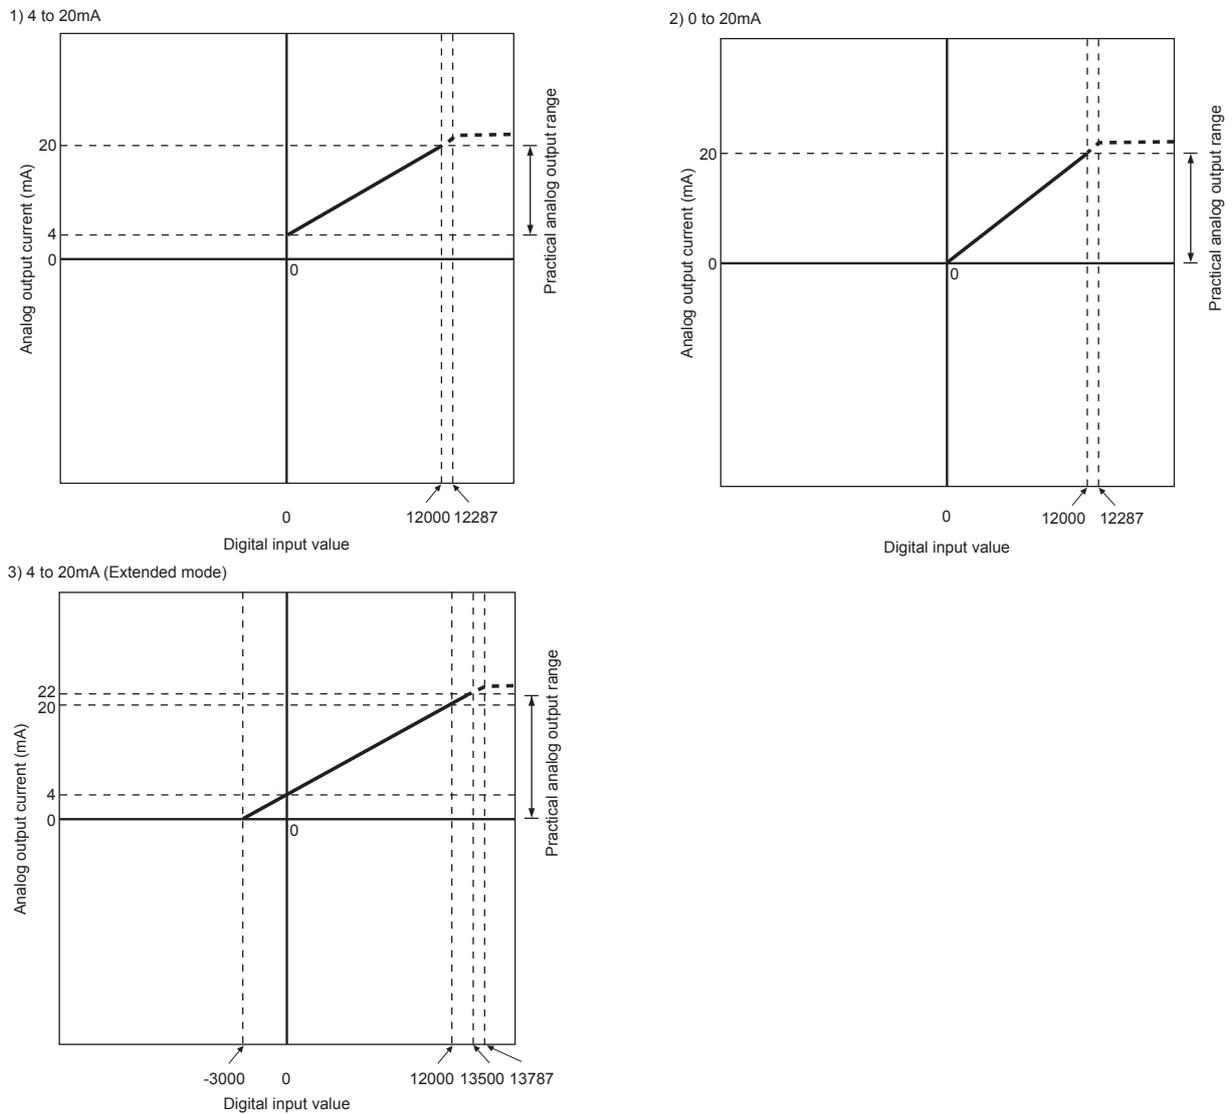

Figure 3.2 Current output characteristic
Figure 3.2 shows a graph of the current output characteristic.
<p>(1) Set within the digital input range and analog output range for each output range. If these ranges are exceeded, the maximum resolution and accuracy may not fall within the performance specifications. (Avoid using the dotted line area shown in Figures 3.2.)</p> <p>(2) Set the offset/gain values for the user range setting1 * within a range in which the following conditions are satisfied.</p> <p>(a) Setting range is from 0 to 22 mA</p> <p>(b) { (Gain value) – (Offset value) } > 10mA</p>